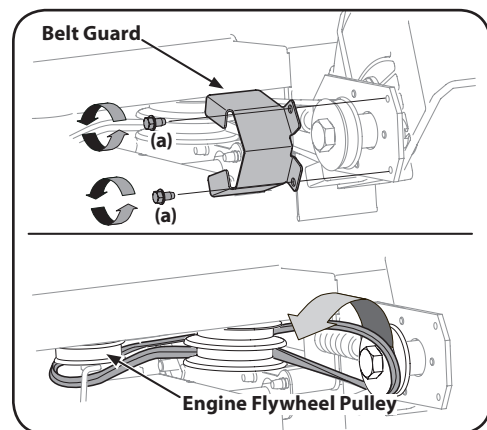

Figure 5-4
3. Remove the spindle sheaves belt guard by removing the two self-tapping screws (a) which secure it to the blade plate assembly. See Figure 5-4.
4. Carefully remove the belt from off of the pulleys, again making sure to note the orientation of the belt. Discard the belt. See Figure 5-4.